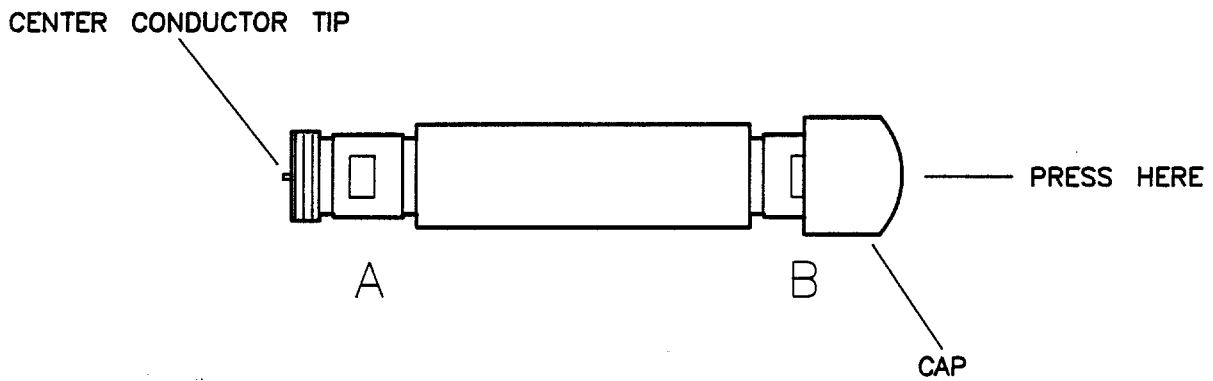

Figure 4-7. Assembling the Airline
3. Insert the center conductor into the outer conductor so that the mark on the center is closest to the “A” end of the outer conductor see Figure 4-7. Do not let the center conductor scrape the edge of the outer conductor. Damage may result.